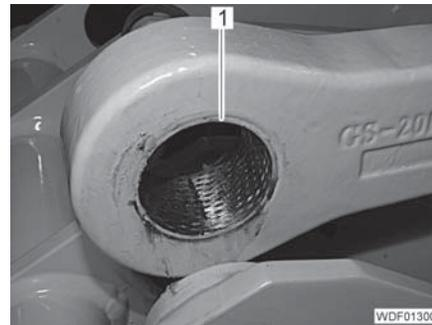

Fig. 315 Bearing
- Drive out the bearing (Fig. 315,1).
- Drive in the bearing (Fig. 315,1).